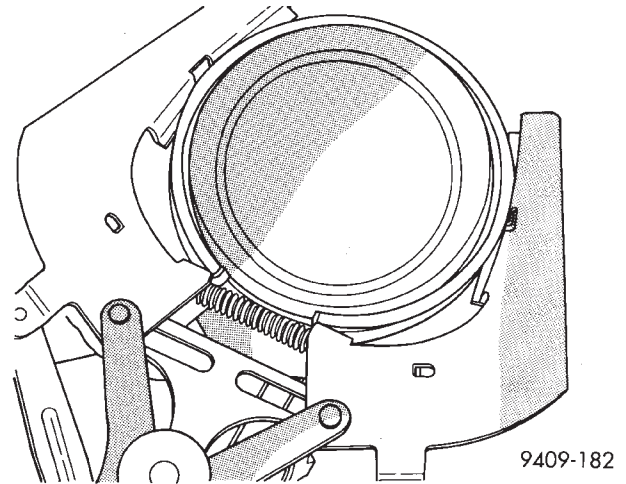
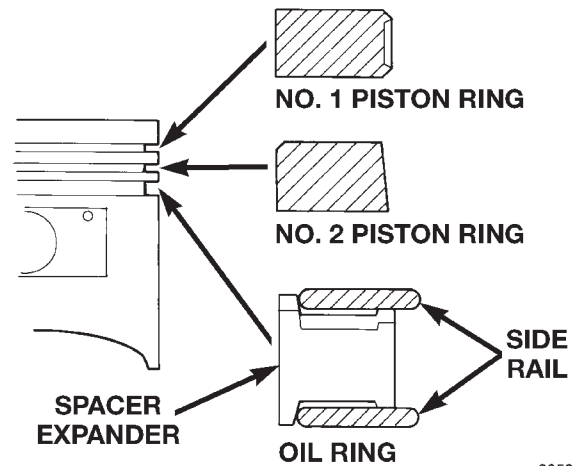
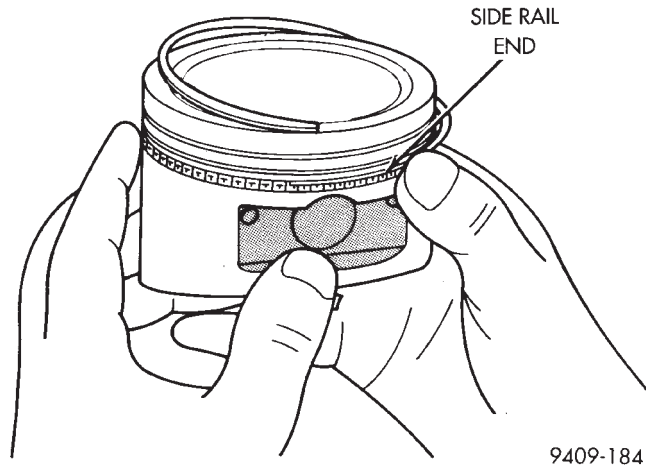

Fig. 116 Piston Rings—Removing and Installing PISTON RINGS—INSTALLATION
Fig. 117 Piston Ring Installation
Fig. 118 Installing Side Rail
(1) Install rings with manufacturers I.D. mark facing up, to the top of the piston (Fig. 117).
- (1) ID mark on face of upper and intermediate piston rings must point toward piston crown.
- (2) Using a suitable ring expander, remove upper and intermediate piston rings (Fig. 116).
- (3) Remove the upper oil ring side rail, lower oil ring side rail and then oil ring expander from piston.
- (4) Clean ring grooves of any carbon deposits.
- f. Install the side rail by placing one end between the piston ring groove and the expander. Hold end firmly and press down the portion to be installed until side rail is in position. **Do not use a piston ring expander (Fig. 118).**
- (2) Install upper side rail first and then the lower side rail.
- (3) Install No. 2 piston ring and then No. 1 piston ring (Fig. 117).